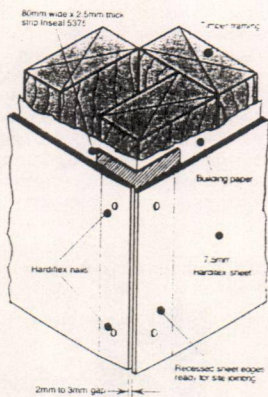

Fig. 12 Recessed edge external corner detail
- At external and internal corners adhere a strip of Inseal 5375 in position before fixing sheets. (Refer Figs. 12 and 13). The sheets can then be finished with the standard tape reinforced flexible jointing system. (Refer Fig. 1).